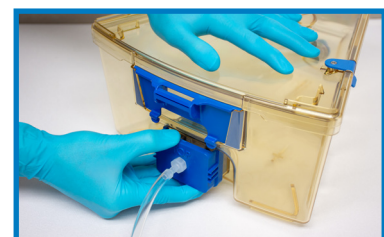

Figure 7
2. Rock the nozzle from side to side while pulling away from the cage (Figure 7).